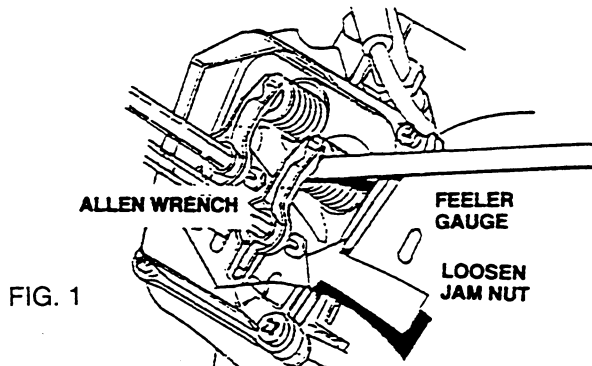

FIG. 1
- 2) Jam nut must be loose. (Fig. 1)